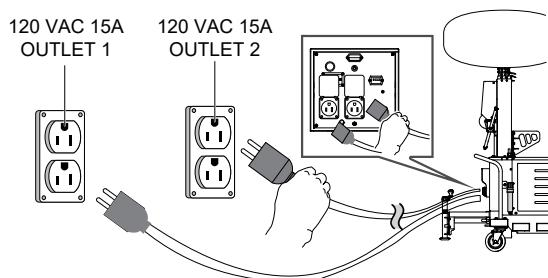

Figure 30. Power Outlets
1. To charge the battery, connect each charging cable to a separate power outlet 120 VAC (Figure 30).